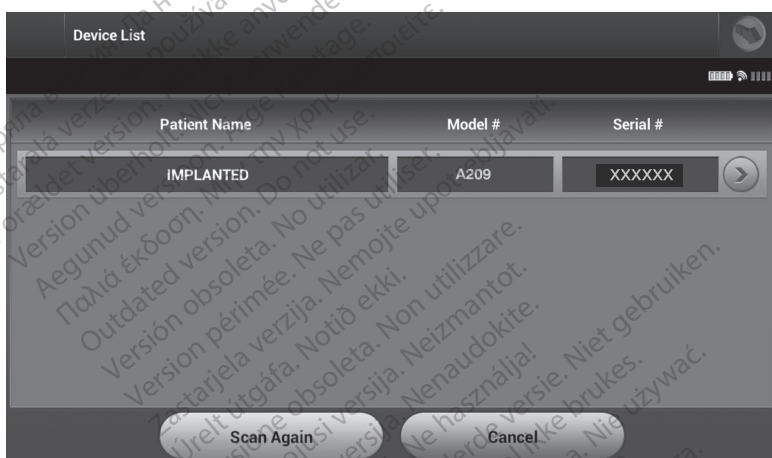

Figure 15. Device List screen (scrollable list)
2. When the scanning process is complete, a list of all S-ICD pulse generators detected (up to 16) will be displayed on the Device List screen (Figure 15 Device List screen (scrollable list) on page 25). The devices that are in Shelf mode will be displayed as "NOT IMPLANTED". Any devices that were previously taken out of Shelf mode are displayed either as "IMPLANTED" or with the stored patient name.
Select the desired pulse generator from the Device List screen (Figure 15 Device List screen (scrollable list) on page 25) to initiate the communication session.